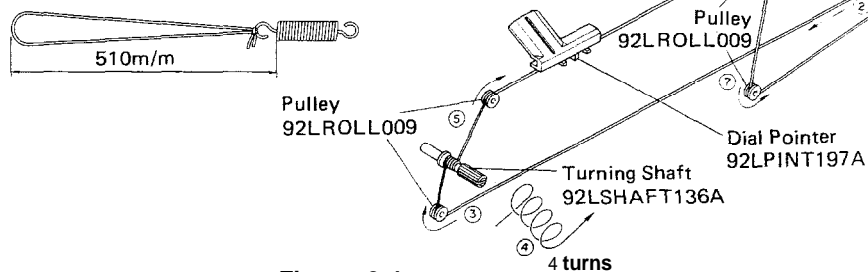

Figure 3-4
- 1) Turn the drum fully clockwise and stretch its cord cover the parts in the numerical order-as shown in Figure 3-4.